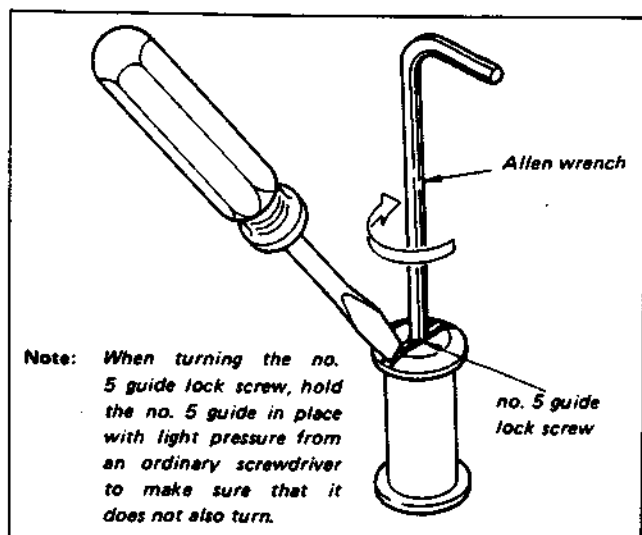

Fig. 4-6
- 3) Loosen No. 5 guide lock screw ① and turn the No. 5 guide until the entrance waveform sticks up a little above flat, as shown in the figure below. Then tighten the No. 5 guide lock screw (Fig. 4-6).